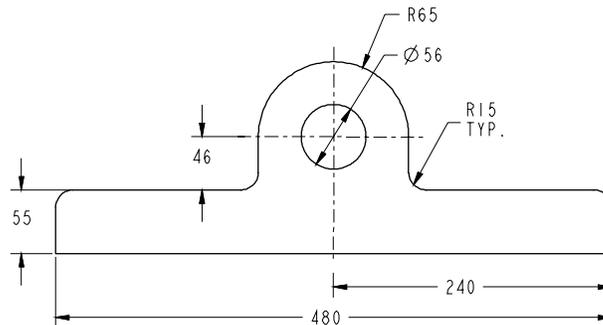
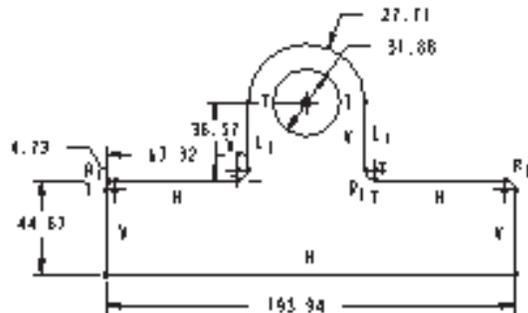

Figure 2-33 Sketch for Tutorial 3
Figure 2-39 Sketch after autodimensioning
Draw the sketch shown in Figure 2-33 without using the **Intent Manager**.
When you use the **AutoDim** option, the sketch is automatically regenerated and strong constraints and dimensions are applied to the sketch, see Figure 2-39. Retain only the dimensions shown in Figure 2-33 and delete the remaining dimensions. If some of the
dimensions shown in Figure 2-33 are not displayed, create them manually by using the **Dimension** option from the **SKETCHER** menu in the **Menu Manager**.
Tip: In Figure 2-39 the dimensions are moved so that the clarity of the sketch is improved. You can move the dimensions by choosing the **Geom Tools** option from the **SKETCHER** menu and from the **GEOM TOOLS** submenu that appears, choose the **Move Entity** option. You are prompted to select an entity. Select the dimension text, the selected dimension turns red in color. Now, move the cursor and using the left mouse button, place the dimension at the desired location on the graphics screen.
2. Enter the required dimension in this window. Similarly, modify all the dimensions as required. See Figure 2-33 for dimension values.